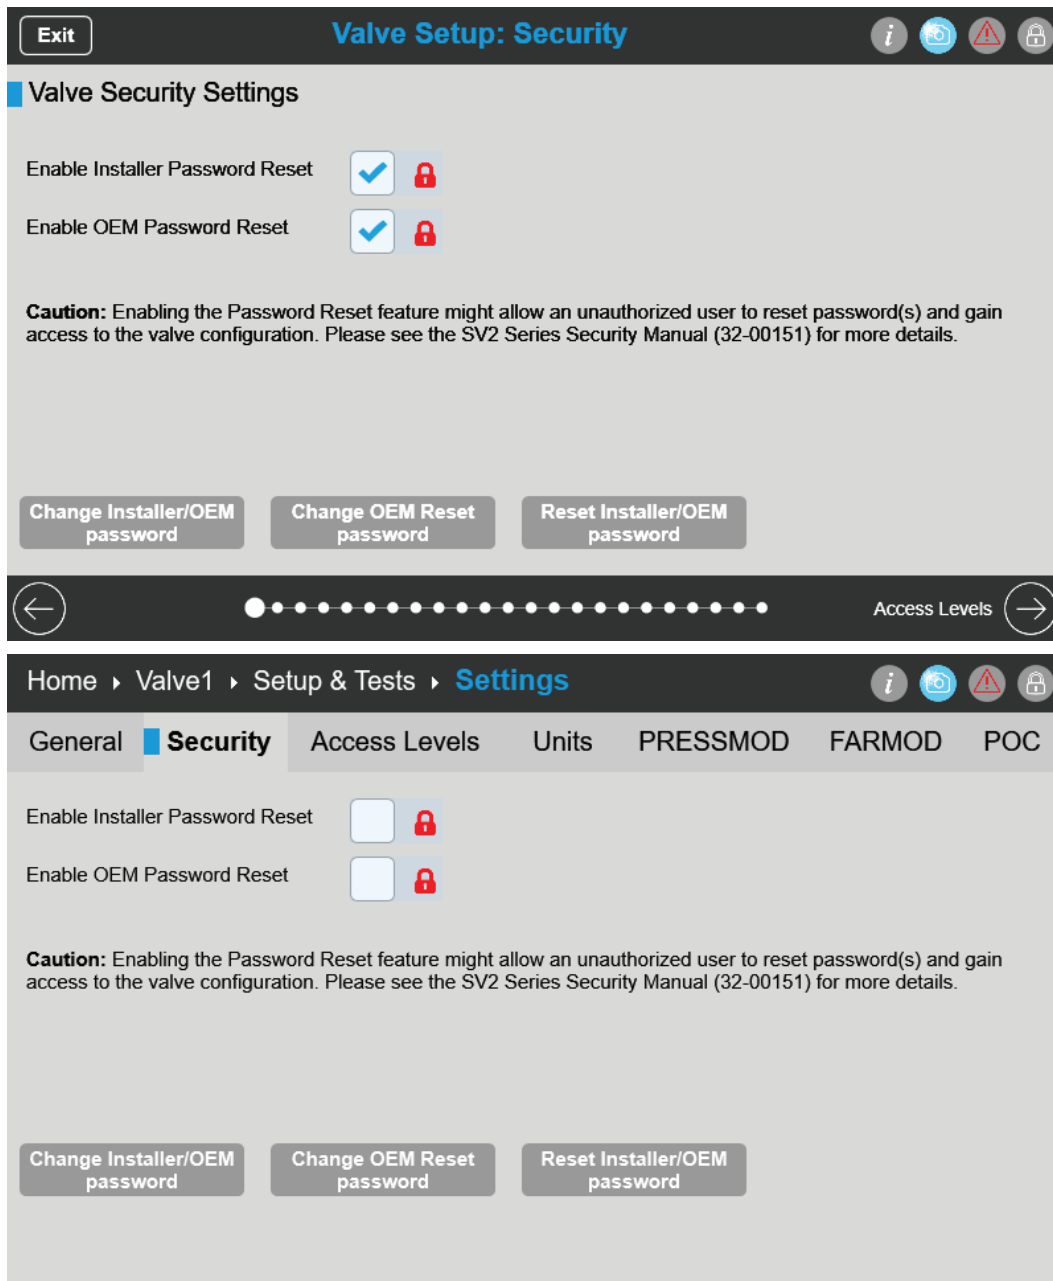

Fig. 89: Security page for passwords entry, change or reset.
2. Navigate to the Security page either using the guided setup sequence or via the Setup & Tests --> Settings --> Security menus. Refer to Fig. 89.